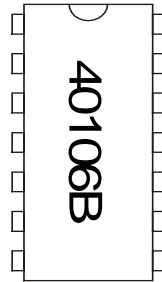

Fig. 7
- (b) (i) An alternative circuit for the ice warning uses a Schmitt inverter IC to provide a fast switching action. Fig. 7 shows the outline of the IC.
Write the connections against the appropriate pin on Fig. 7. [1]